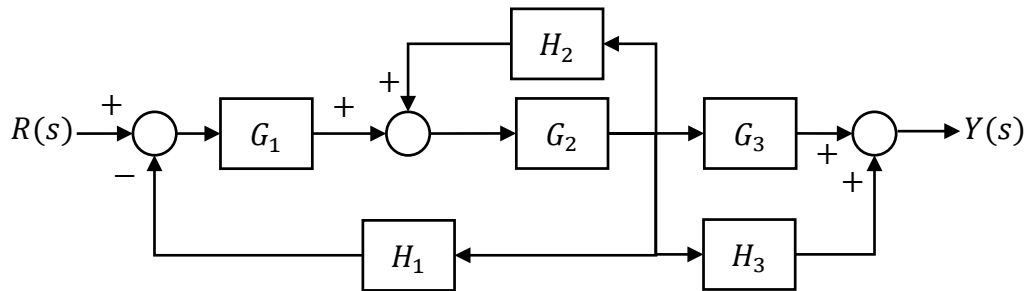

Figure P2: Control block diagram with the following G and H transfer functions.
Consider the block diagram in Figure P2.
- Given that $p = 5$. Use an m -file to reduce the block diagram in Figure P2, obtain the equivalent closed-loop transfer function of the above system. Clearly show, using codes or drawings, the steps of block diagram simplification. Generate a pole-zero map in the graphical form and calculate the poles and zeros of the closed-loop transfer function. Comment on the overall system stability.